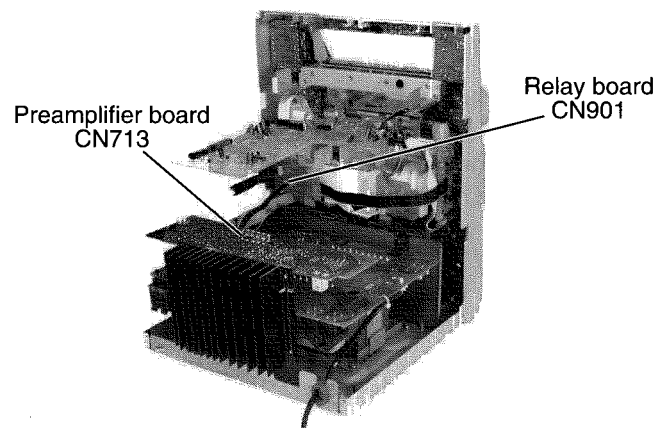

Fig.29
■ Removing the preamplifier board / heat sink (See Fig.29 to 31)